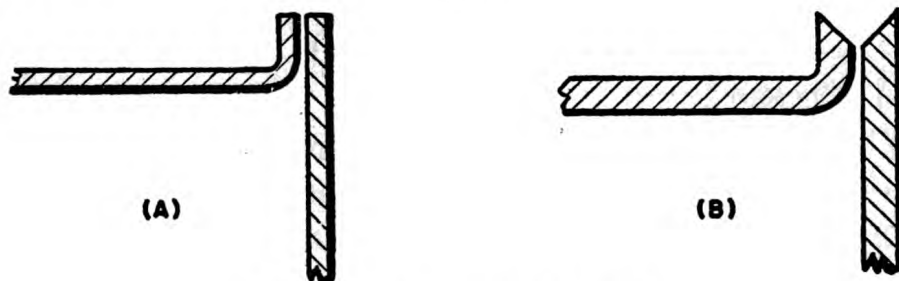

Figure 29.—Types of edge joints.
EDGE WELDS like those in figure 29 come in handy for fittings made up of two or more pieces of sheet metal where the edges must be fastened together and where you aren't worried about the load stress.
However, (B) in figure 29 is another story. Here the parts are thicker. You have to bevel or groove the edges, and add filler metal from a welding rod to obtain a strong joint.